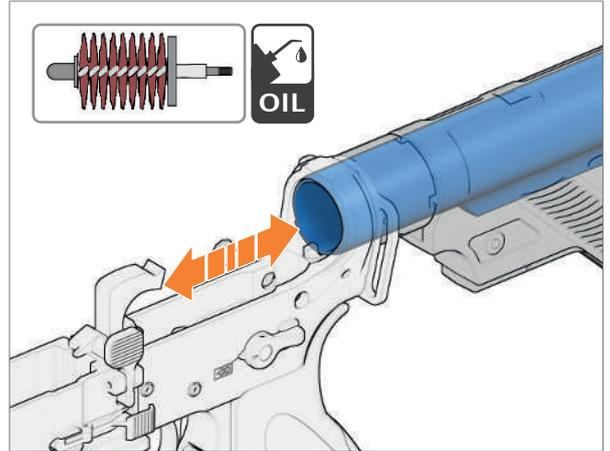

Fig. 103: Cleaning inside extension
1. Screw together handle rod, 2 extension rods and cleaning brush for extension (*Fig. 103*).
2. Clean extension inside with a lubricated cleaning brush (*Fig. 103*).